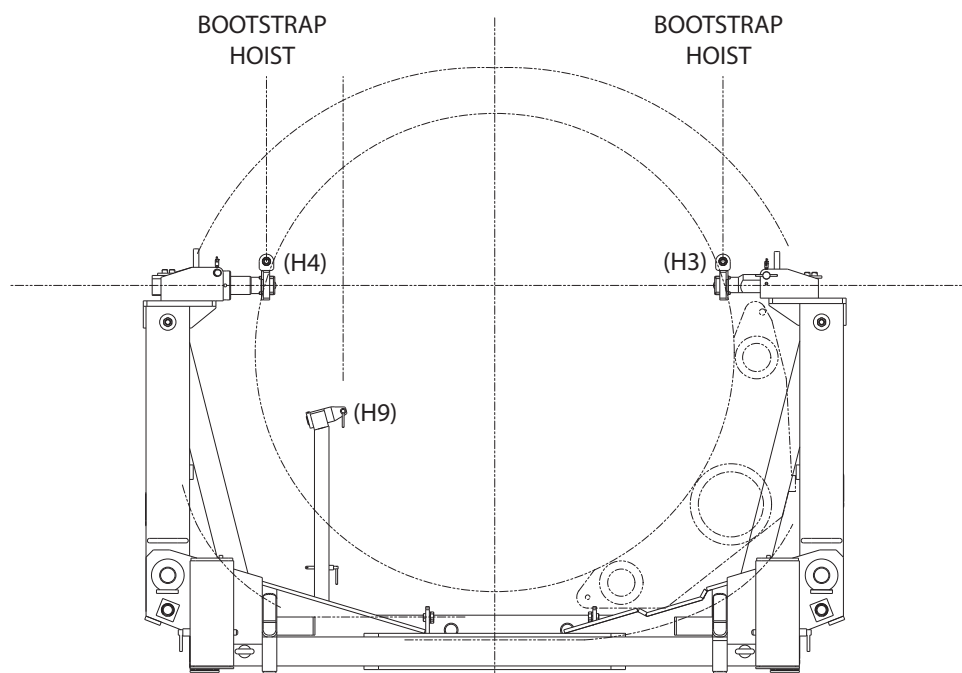
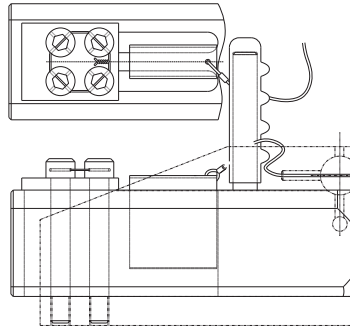

Figure 5.3-2
Figure 5.3-3
- 14) Lower the engine into the cradle until the forward arms can be swung back to the vertical position with the trunnion shaft ends clear, per Figure 5.3-2. Reinstall the forward arm lower support pins to maintain the vertical position. Check and reposition the stand as required to align the trunnion shafts with the engine mounts.
- 15) Slide the left hand (H3) trunnion ball inboard into the insert until the flat end surface rests against the inserts surface. Install the saddle retaining pin (item 4811) with ball lock pin (item 4825) to retain.
- 16) Slide the right hand (H4) trunnion ball inboard into the insert until the flat end surface rests against the inserts surface. Install the saddle retaining pin (item 4811) with ball lock pin (item 4825) to retain.
- 17) Position the engine to align the aft engine mount arm at the (H9) position. Loosen the aft support arms threaded set collar to allow the trunnion clevis to slide in the mount arm. Attach the clevis end to the H9 engine position with retaining pin (item 4810).
- 22) Check to ensure that the trunnion bottom surface is in full contact with the saddle surface and that, when unpinned, the trunnions slide freely in and out. The screw heads should have an approximate gap of 0.01” under each and tie-wired with stainless steel wire as shown in Figure 5.3-3 to prevent rotation.
- 4) Remove the forward arm support braces (item 4802) and set aside.
- 10) Remove the aft (H9) engine support by unthreading clevis trunnion adjustment set collar and removing the pin (item 4810). Rotate the aft support arm to rest on the cradle.
- 11) If the trunnion does not slide freely when the retaining pins are removed, remove the tie wire, Figure 5.3-3, from the four ½ inch diameter socket head cap screws located at the outboard ends of the H3 and H4 forward mount trunnion and loosen until there is an approximate 0.01” gap under each screw head. Use Stainless steel tie-wire to secure screws from unwanted rotation. See Figure 5.3-3.
- 13) Remove both forward mount retaining pins from the left (H3) and right (H4) saddles, (items 4811 and 4825). The engine may need to be raised and lowered to remove its weight to allow the pins to be withdrawn.
- 14) Slide the item 4201 (H3) and item 4214 (H4) trunnion shafts outboard until stopped by the socket head cap screw and the end support balls are clear of the inserts, see Figure 5.3-2.